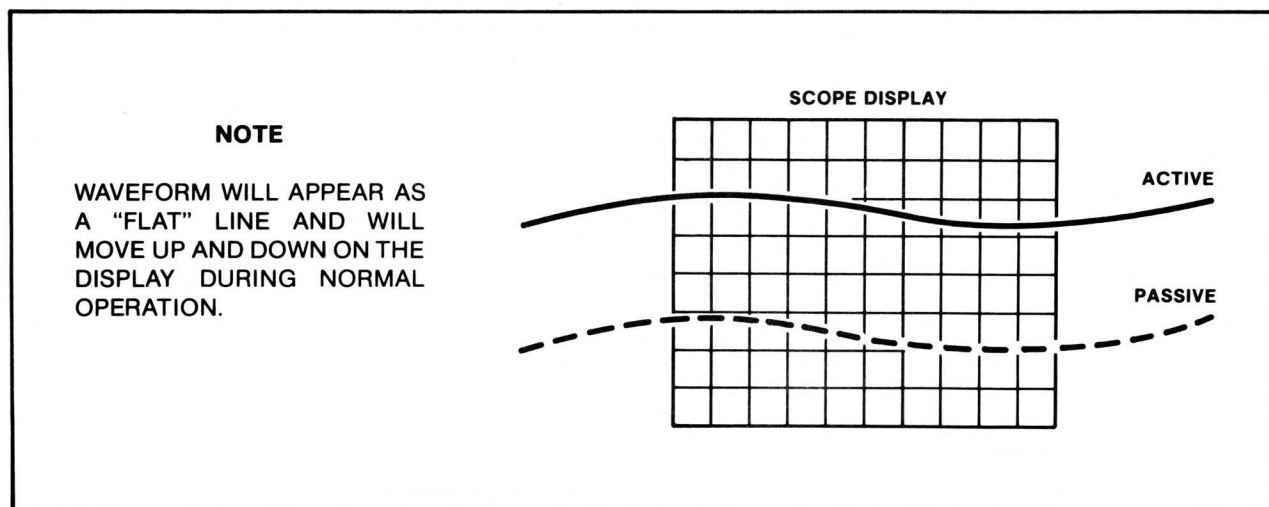

Figure 8-12. Quick Tuning Check, Waveform Display
- h. If the sampler, photodiode, and amplifier are working properly, the oscilloscope display will show the trace switch between two distinct levels. See Figure 8-12 below. With continued observation these levels, which correspond to F1 and F2, will change amplitudes since the tuning is uncontrolled. The difference between the levels varies with time between a maximum difference and a minimum difference.